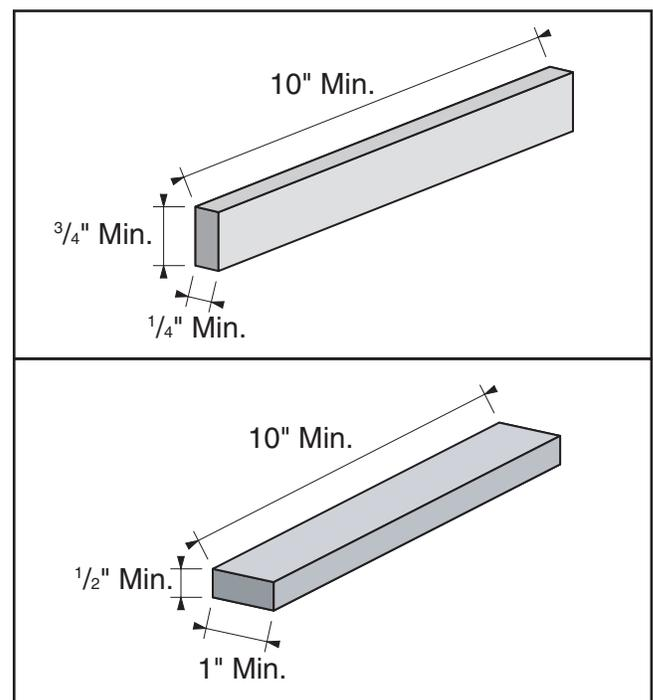

Figure 39. Minimum stock dimensions for jointer.
- **Make sure your workpiece exceeds the minimum dimension requirements, as shown in Figure 39, before processing it through the jointer, or the workpiece may break or kickback during the operation.**